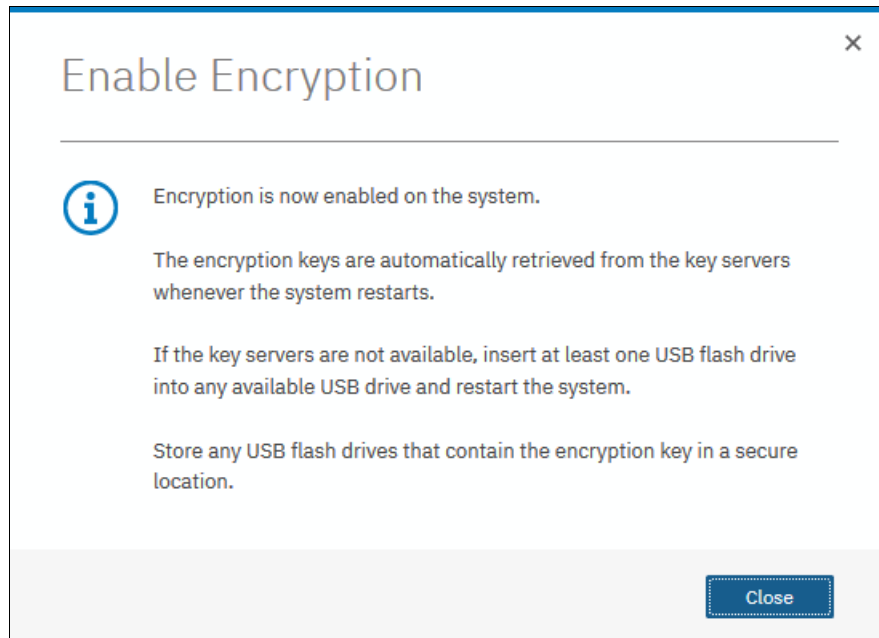

Figure 13-55 Encryption enabled message using both encryption key providers
6. If no errors occurred while creating the key server object, the system displays a window that confirms that the encryption is now enabled on the system, and that both encryption key providers are enabled (see Figure 13-55).